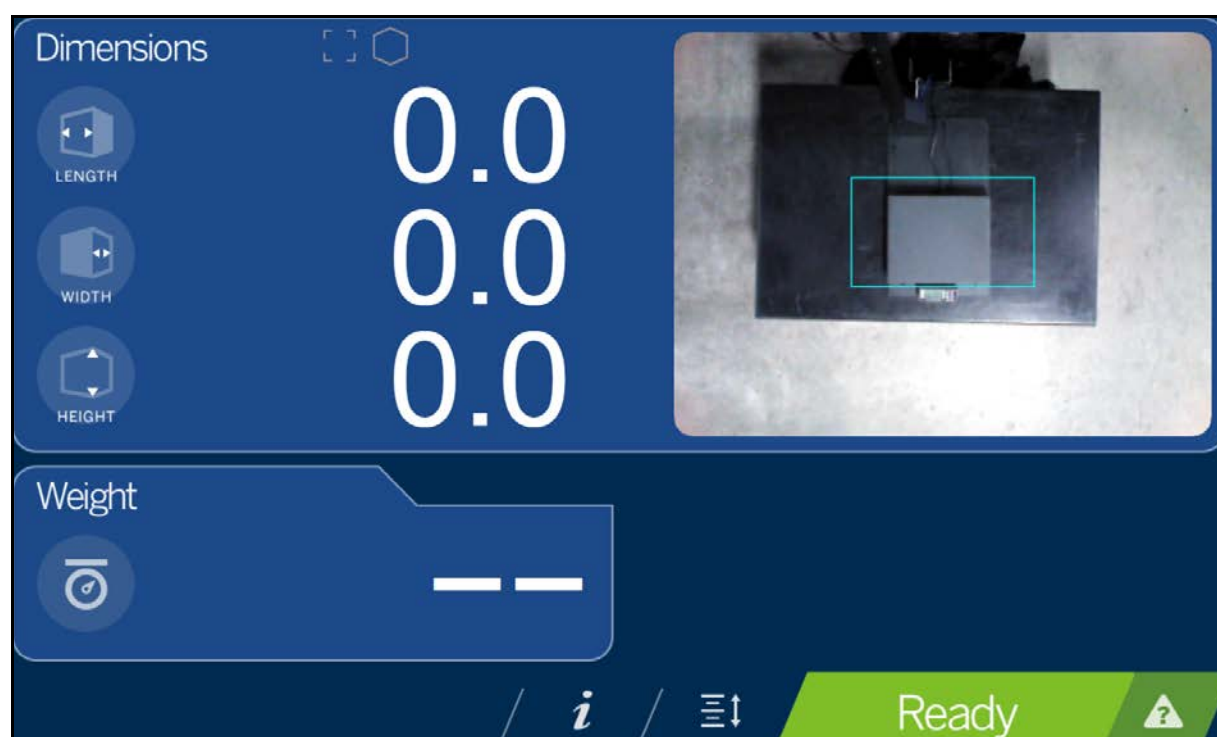

Figure 3-1. Touchscreen Display
- Upon successful zero height calibration then select  (Figure 3-1 on page 11).
The weigh area provides a real-time view of the scanning area from the scanning head onto the USB display. The blue box within Figure 3-1 is the **Scan Zone** which indicates the area the iDimension Plus will dimension.
5. Upon successful zero height calibration then select . The display returns to the **Touchscreen Display** (Figure 3-1 on page 11).
1. Select the **Device Information** function key  located at the bottom of the screen (Figure 3-1 on page 11).